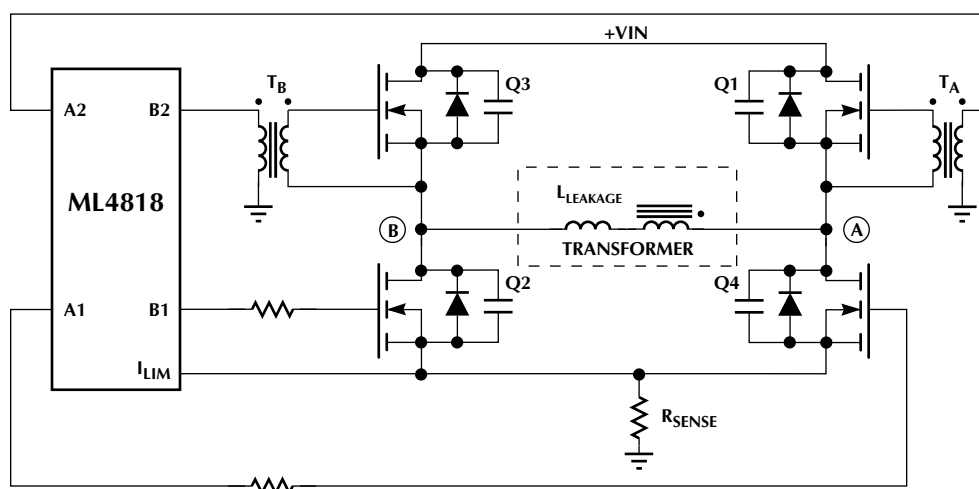
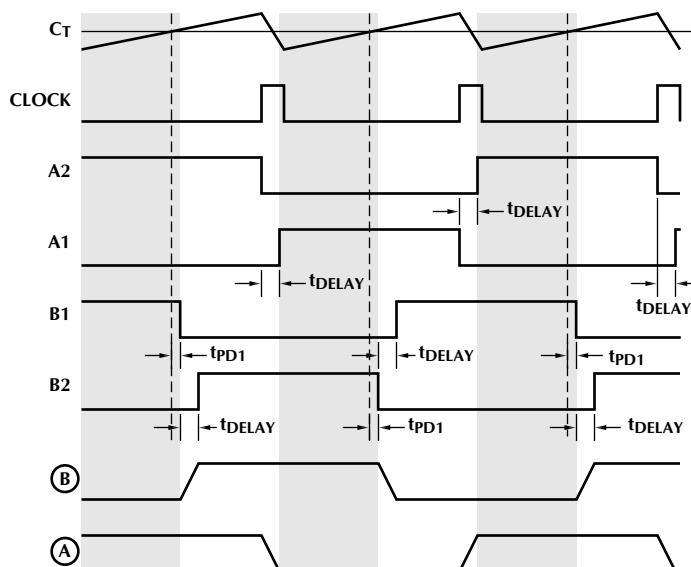

Figure 1. Simplified diagram of Phase Modulated power Outputs.
Figure 2. Phase Modulation control waveforms (Shaded areas indicate a power cycle).
Power is controlled by modulating the switching phase on sides A and B of the full H-bridge converter (Figure 1). Power is delivered to the output through the transformer secondary. The power conversion process is described by the following sequence and illustrated by the timing diagram of Figure 2:
6. The previous sequence is now repeated with the opposite polarity on all outputs (see Figure 2).